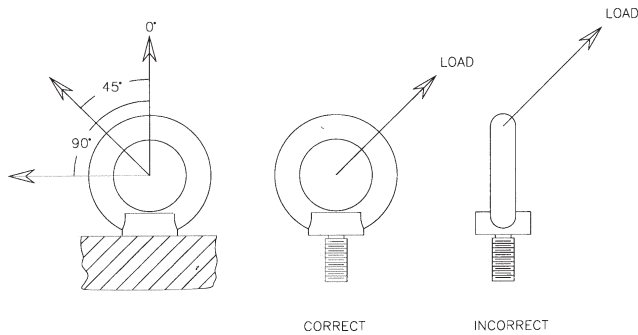

Figure 2 – Rigging Point and Load Angles
3. Finger tighten eyebolt until correct alignment position is obtained, a maximum of one complete turn (See Figure 2).
The EBK-1 Attachment Kit and the EVI speaker enclosure are rated for suspending only one speaker (8:1 safety factor). **Hanging any additional weight from the speaker will exceed its strength rating and create an unsafe condition.** Table 2 lists the strength ratings for the 3/8-inch lifting eyebolts with an 8:1 safety factor. The lifting eyebolts are not rated for angles greater than 45 degrees (See Figure 2). An exception to this would be the lifting eyebolt which is used for speaker aiming and not for a main load-bearing point; the angle on that eyebolt can exceed 45 degrees.